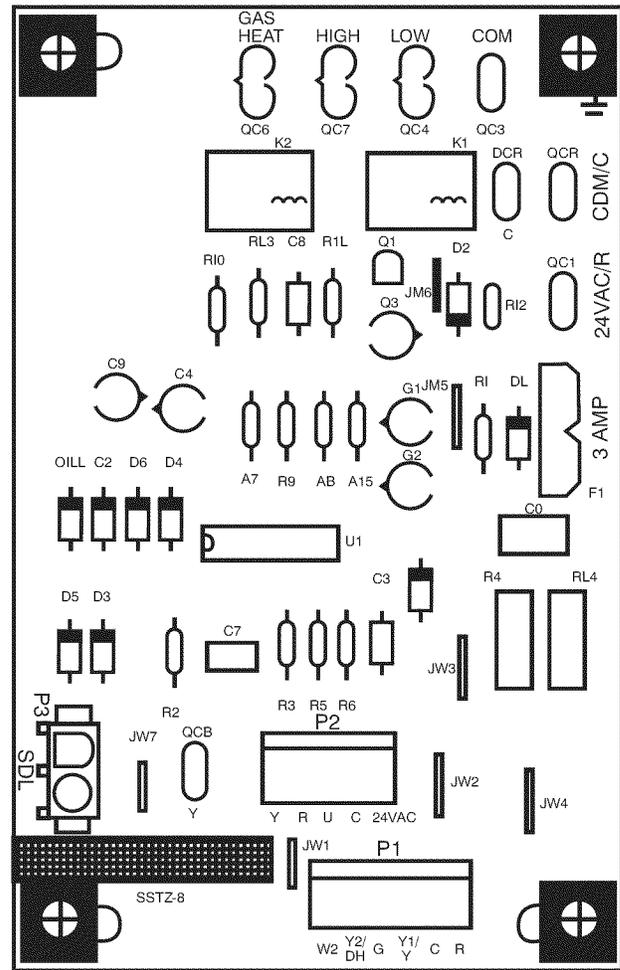

Fig. 17 - Interface Fan Board (IFB)
This unit is factory-set up for use with a single cooling fan speed. The cooling speed is marked “LOW” on the interface fan board (IFB)(See Fig. 17) . The factory-shipped settings are noted in Table 8. There are 3 additional speed tap wires available for use in either gas heating or cooling (For color coding on the indoor fan motor leads, see Table 6). The additional 3 speed tap wires are shipped loose with vinyl caps and are located in the control box, near the interface fan board (IFB) (See Fig. 17).
2. Remove the current speed tap wire from the “LOW” terminal on the interface fan board (IFB) (See Fig. 17) and place vinyl cap over the connector on the wire.
1. Remove fan speed tap wire from the “LOW” terminal on the interface fan board (IFB) (See Fig. 17).
When the DEHUM feature is not used, the continuous fan speed will be the same as cooling fan speed. When the DEHUM feature is used, the continuous fan will operate on IFB "LOW" speed when the DH control lead is not energized, or IFB "HIGH" speed when the DH lead is energized (see Fig. 17).